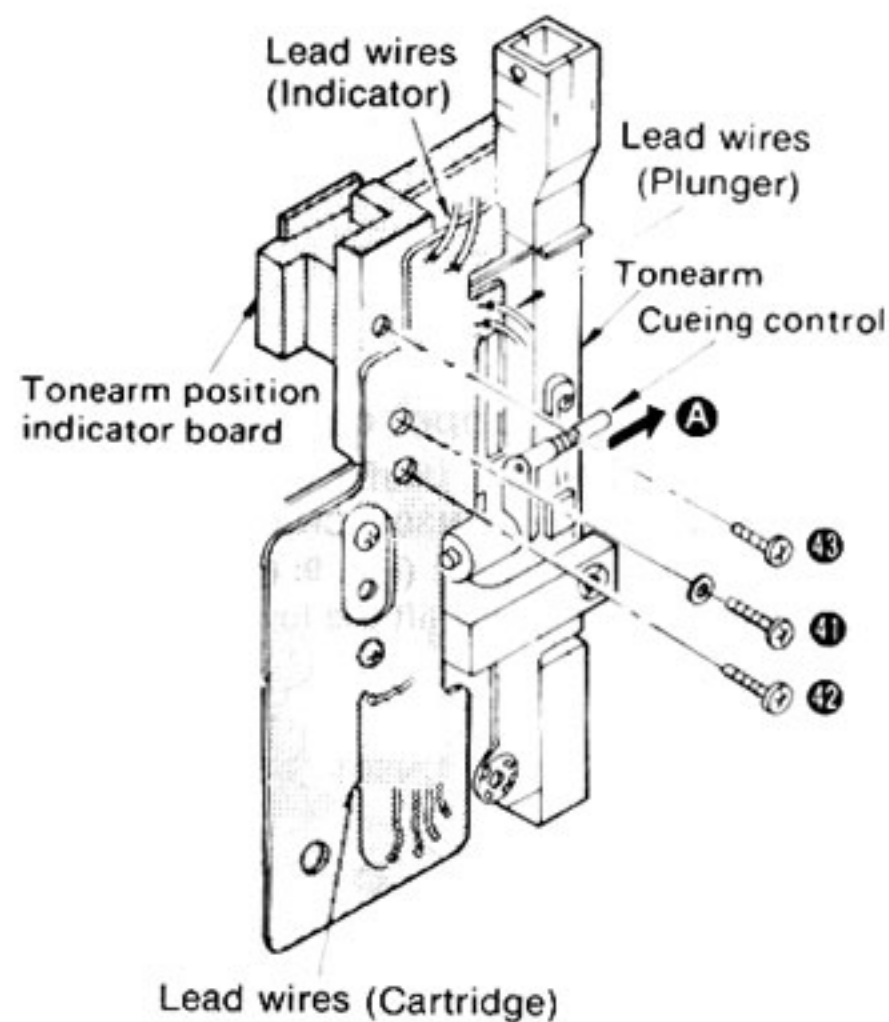

Fig. 11
2. Unsolder the 2 lead wires from the indicator (Fig. 11)
3. Remove the tonearm position indicator board setscrew (Fig. 11: 43).